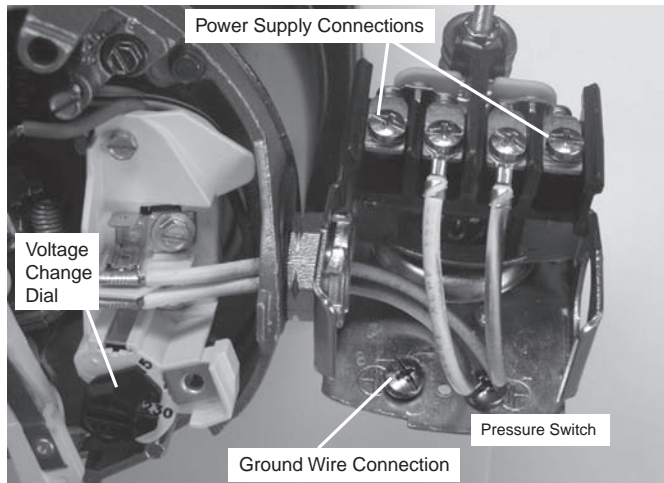

Figure 14: Voltage set to 230 volts, Dial Type
3. Attach the incoming power leads to the two outer screws on the pressure switch as shown in Figure 14.
4. Attach the ground wire to the grounding connections as shown in Figure 14.
1. Connect the ground wire first as shown in Figure 14. The ground wire must be a solid copper wire at least as large as the power supply wires.
4. Connect the power supply wires to the pressure switch as shown in Figure 14.